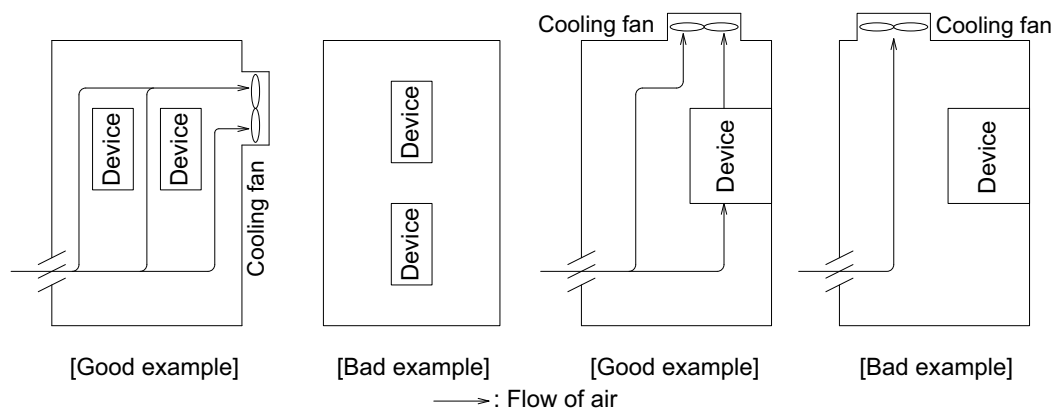

Figure 2-1 Alignment example for storing devices
- d. As the device is equipped with a fan to cool the radiator, secure an opening not to block airflow. When storing plural devices, align them so that ventilation does not influence each other. (Refer to Figure 2-1.)